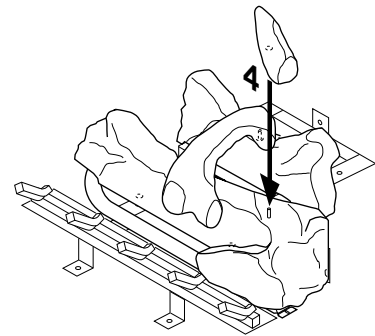

Figure 51 - Installing Log No. 4
4. Place log #4 (small, round log) on the pin on the right side of front log as shown in Figure 51